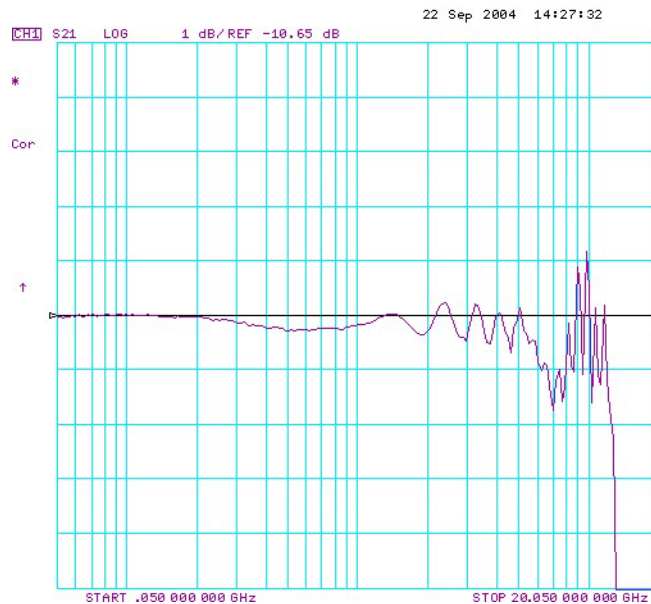

Figure 175 Typical V_{out} Waveform for an 1134A Probe
- 43 The display on screen is V_{out} and it should be similar to that shown in Figure 175.